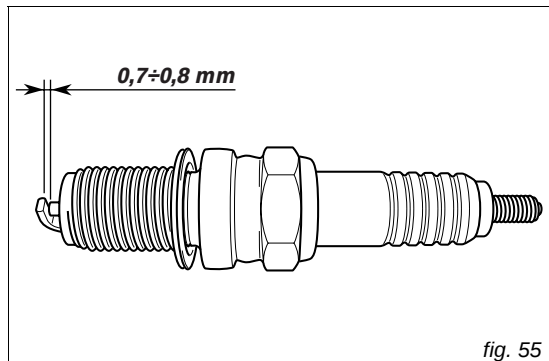

fig. 55
*Cleaning and replacing the spark plugs (fig. 55)